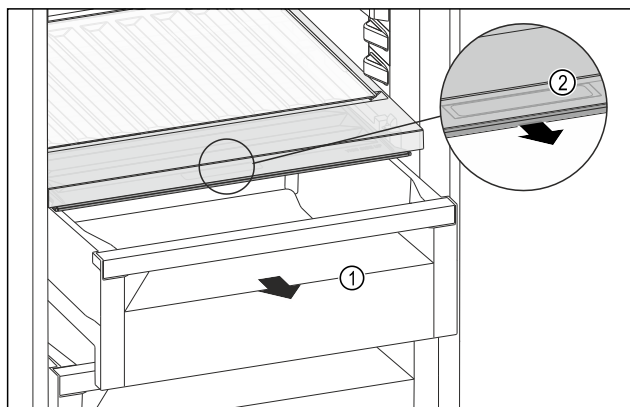

Fig. 120
- ▶ Pull out the drawer Fig. 120 (1).
- ▶ Grasp the recessed grip Fig. 120 (2) on the compartment lid and pull the compartment lid forwards at the same time.